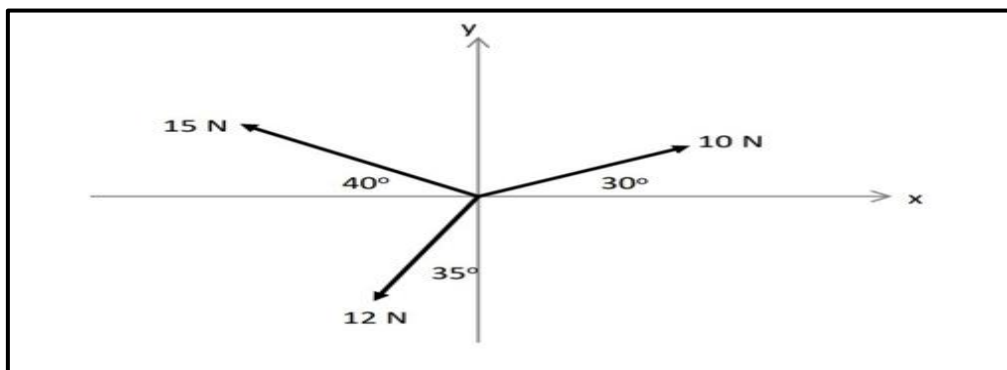

FIGURE 8.4
8.4 FIGURE 8.4 below shows a system of forces with three forces acting on the same point.